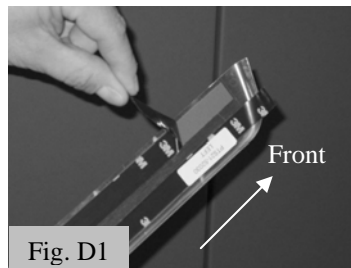

Fig. D1
1. Using the pull-tabs, remove the tape liners. (Fig. D1)